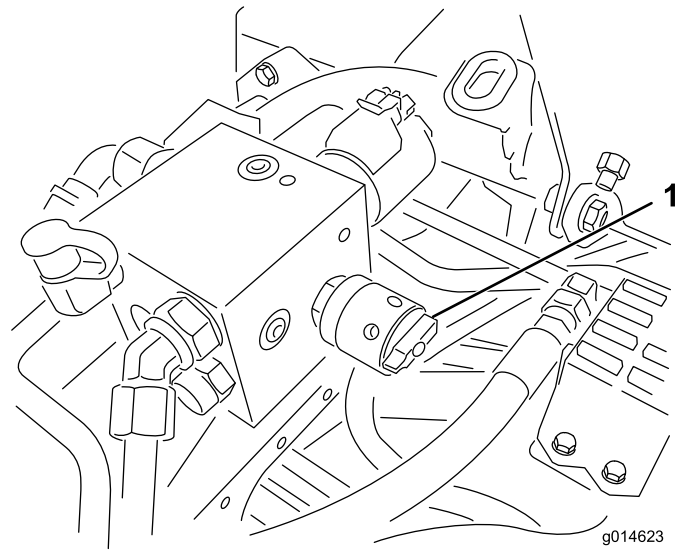

Figure 55
6. Rotate the Reel Speed Control to setting 1 (Figure 55).